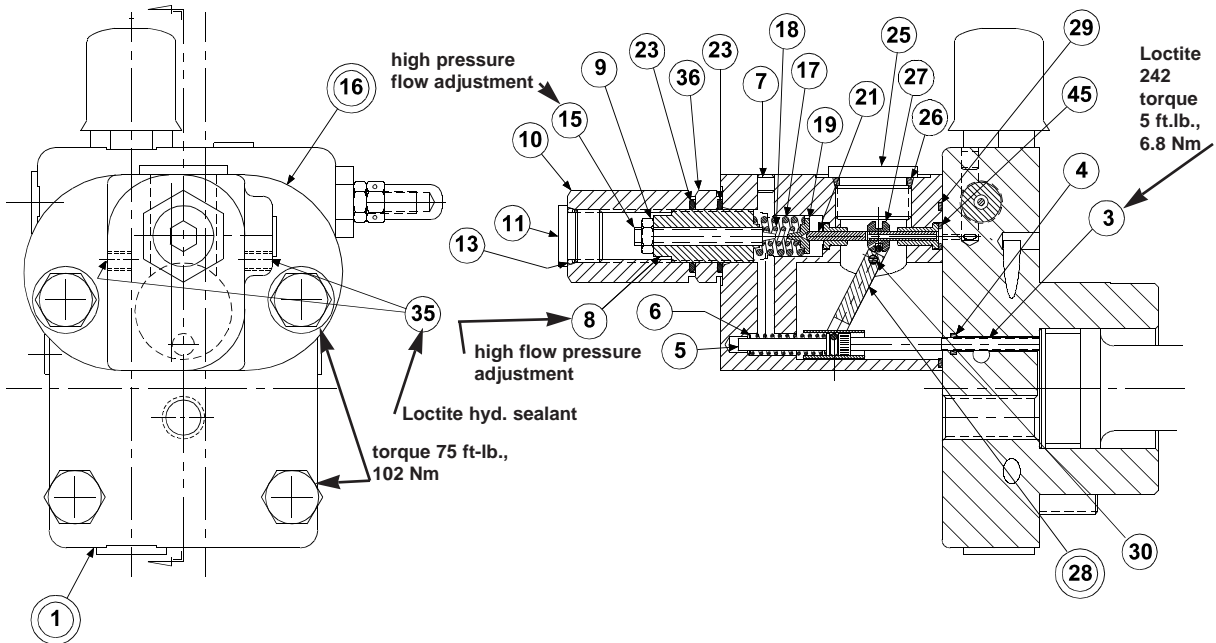
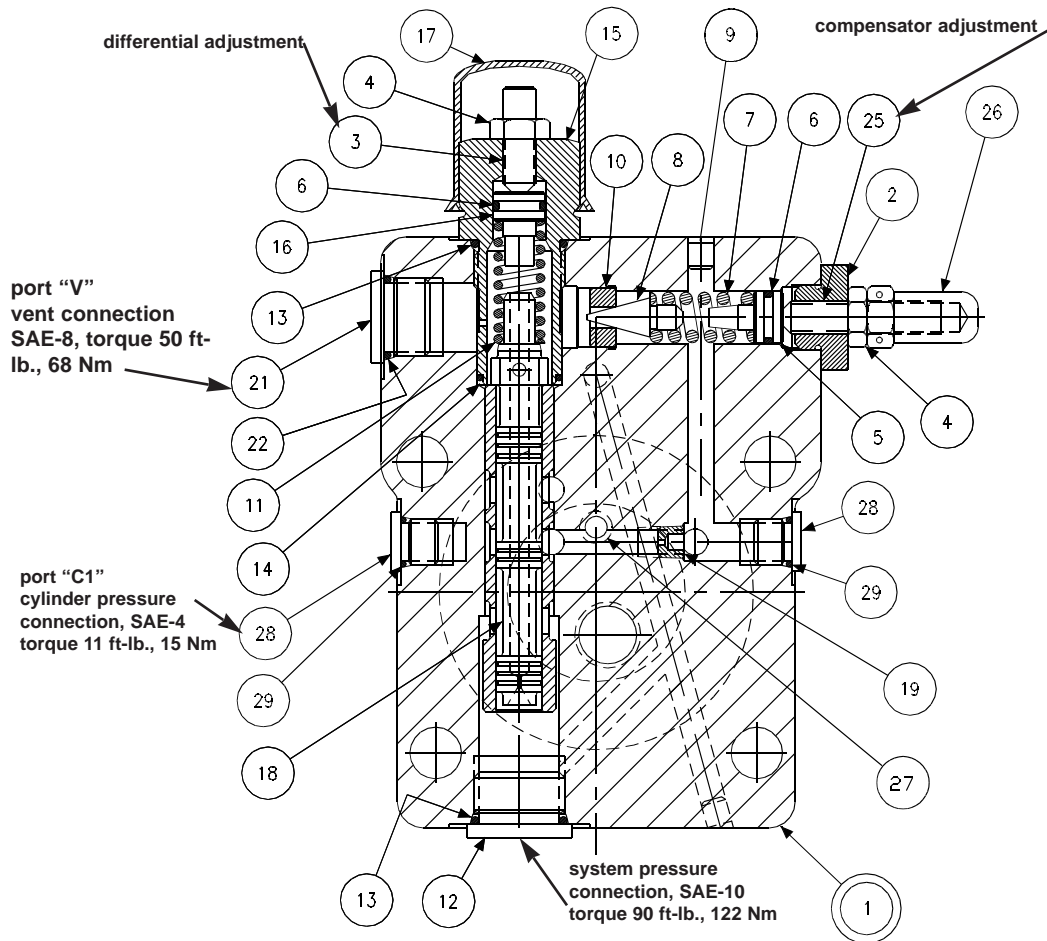

FIGURE 12 – TORQUE LIMITER ASSEMBLY
FIGURE 13
1. **See Figure 12.** Remove two screws holding torque limiter body (16) to cap assembly (1).
2. Remove all parts from torque limiter body (16) except pin (30) and arm assembly (28). It is not necessary to remove these parts unless broken or worn. Examine parts for wear or damage.
3. Remove screw (3). Examine head for excessive wear, and body for smooth sealing surface with O-ring.
5. Remove cap assembly (1).
6. **See Figure 13** Remove plug (15) and attached parts. Remove spring (11) and spool (18).
7. Remove adjusting plug (2) and attached parts. Remove spring (7) and cone (8).
8. Do not remove sleeve in body (1). Sleeve is pressed into cap and finished to size. If sleeve or cap is worn, replace the cap-sleeve assembly (1).
9. Examine seat (10) for wear. Do not remove unless damaged.
1. **See Figure 13** Install Avseal plugs (9) and orifice (19) in body.
2. Press seat (10) into bore squarely against shoulder in bore.
3. Install spool (18) into bore as shown. Install spring (11) over end of spool. Install O-ring (6) on seal piston (16). Lubricate and install into plug (15). Install O-ring (14) in bottom of bore as shown. Install O-ring (13) on plug (15). Install plug (15) into cap. Install screw (3) and nut (4). Install plug (12). Torque plugs (12) and (15) to 90 ft-lb., 122 Nm. Install plug (21). Torque to 50 ft-lb., 68 Nm. Install plug (28). Torque to 11 ft-lb., 15 Nm.
4. Install O-ring (6) on seal piston (5). Lubricate O-ring and Install cone (8), spring (7) and seal piston (5) into bore in cap (1), being careful that cone enters seat (10). Install adj. plug (2), screw (25), nut (4) and acorn nut (26).
5. Carefully install O-ring (27) in the cap.
8. **See Figure 12.** Apply Loctite 242 on threads of screw (3), lubricate the shank, thread through the cap, and turn into the control piston. Torque to 5 ft-lb., 6,8 Nm.
10. Press dowel (30) into body (16), through the link assembly (28), to .25 in., 6,35 mm below surface. Apply Loctite hydraulic sealant to threads of screws (35) and install over dowel (30).
11. While sleeve (27) is engaged into dowel on link (28), slide spool (21) into bore of body (16), and through sleeve (27). Spool (21) must move freely and easily at all positions of the link (28).
12. Assemble remaining parts per drawing. While spring retainer is engaging clevis pin (5) under dowel of link (28), slide the other opening of spring retainer over the top of the screw (3). Attach body assembly (16) to cap (1) and torque screws to 75 ft-lb., 102 Nm.
**PARTS LIST FOR FIG. 12**
**PARTS LIST FOR FIGURE 13**